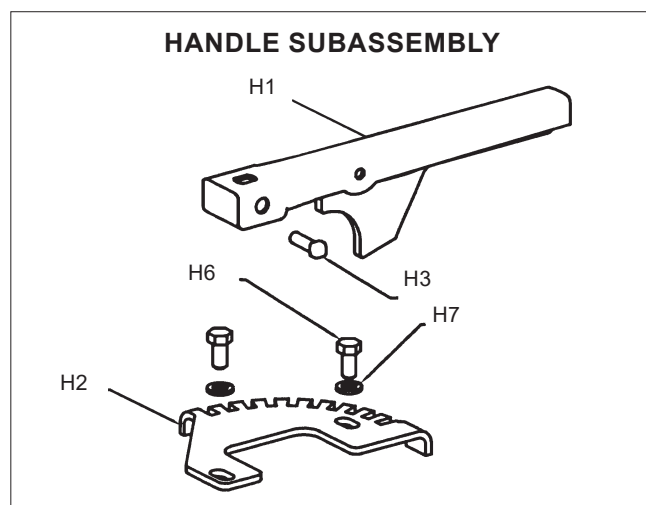

Figure 10.
9. A body seal (40) is required between the seat tail and body as shown in (Figure 10). The valve uses a graphite type gasket. This is installed in accordance with the following steps: